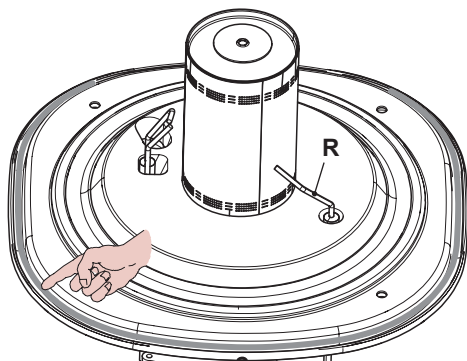

Fig. 9.10
- The detection electrode R in Fig. 9.10 also functions as a sensor for the correct drainage of the condensate. Should the mentioned electrode come into contact with the condensate water present within the combustion chamber it sends the boiler into safety lockout. Therefore, should the insulation be wet or deteriorated, provide for the substitution of the same.
**Caution:** After any periodical servicing or disturbance the combustion chamber silicon seal Fig. 9.10 and the Air-gas duct gasket (12) must be fully inspected and replaced at the discretion of the service engineer. After any disturbance to the chamber door seal the appliance must undergo a full analytical combustion performance check.